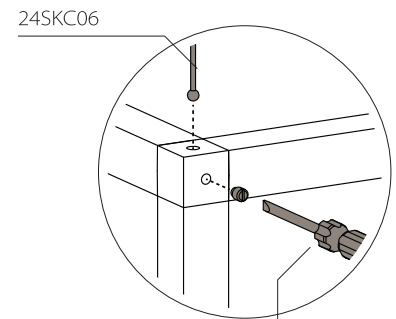

Fig. 3c
- 1c. Install 24SKC06 into hanging corners and tighten set screw with included Slotted Screwdriver (Fig. 3c). This is how you will install all 24SKC06 for the rest of the assembly.